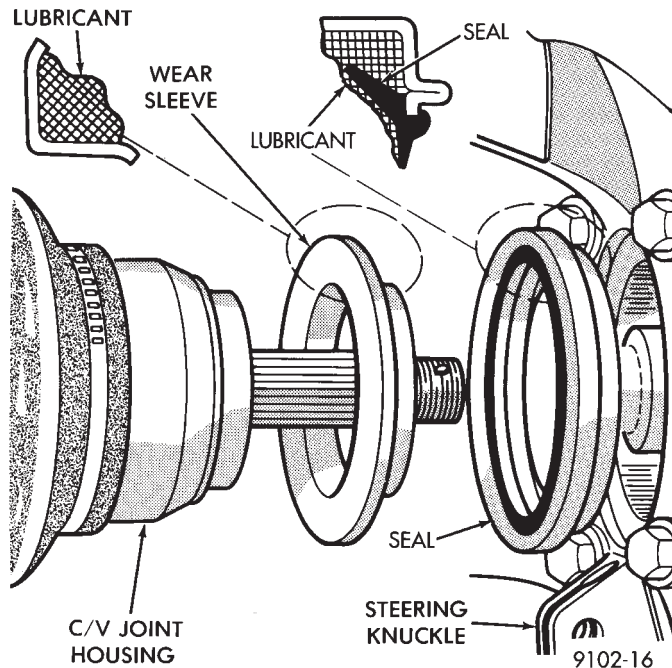

Fig. 12 Seal and Wear Sleeve Lubrication
(4) Lubricate the **FULL** circumference of the bearing seal (and wear sleeve) as shown in (Fig. 12). With Mopar® Multi-Purpose Lubricant, or equivalent.